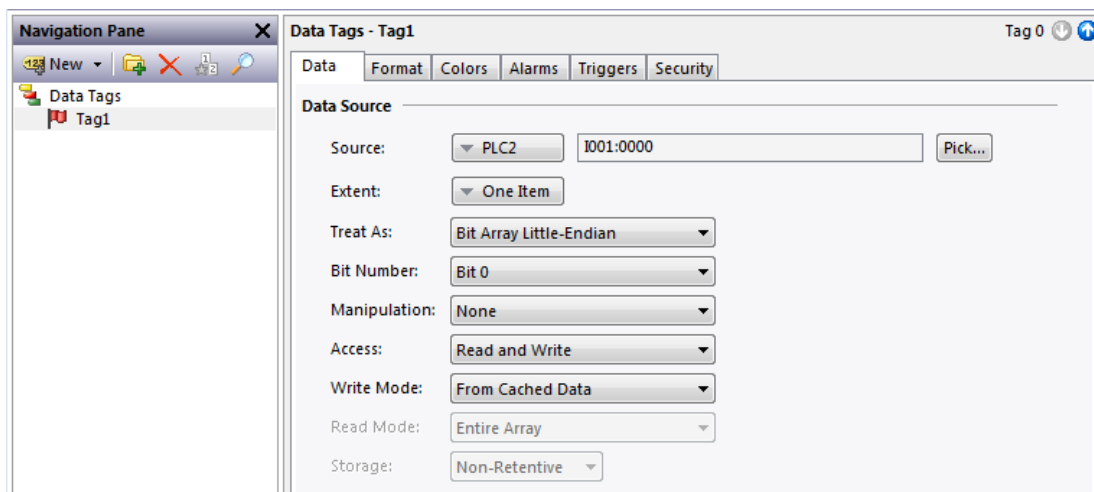

Figure 4.
- To map a tag to the input above (I:1.0/0 in RSLogix 500) in Crimson, you would map a tag to I001:0000. Then, set the Treat As parameter to *Bit Array Little-Endian* and choose *Bit 0* for the Bit Number parameter as shown in Figure 4.